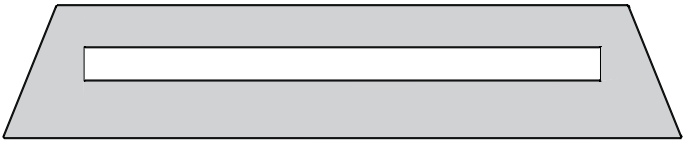

Figure 36
- Apply the accessory decorative media to the shaded area only. **See Figure 36.** Use enough to cover the floor of the fireplace, but do not allow the media to reach higher than the flange surrounding the burner. Never place decorative media inside the flange surrounding the burner itself. This fireplace can use crushed glass, glass droplets (1/2 inch), glass drops (1 inch), or ceramic fiber rocks and pebbles. Mix colors and glass types, but do not exceed the recommended amount of decorative media.